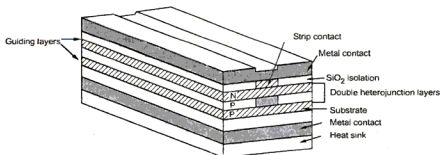

**Fig. 3.1.3 Lambertian radiation**
- The isotropic emission pattern from surface emitting LED is of Lambertian pattern. In Lambertian pattern, the emitting surface is uniformly bright, but its projected area diminishes as  $\cos \theta$ , where  $\theta$  is the angle between the viewing direction and the normal to the surface as shown in Fig. 3.1.3. The beam intensity is maximum along the normal.